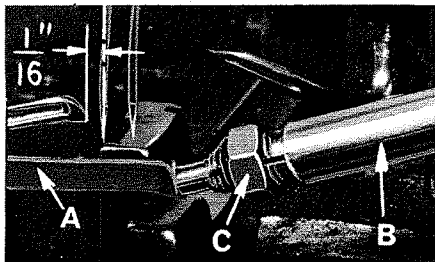

Fig. 5
At this point, insert lower looper (A, Fig. 5) into bar (B). With lower looper at left end of its stroke, set looper point $1/16$ inch from the center of left needle (Fig. 5), using looper gauge No. 21225-1/16. Do not have lower looper deflecting needle. Tighten nut (C).